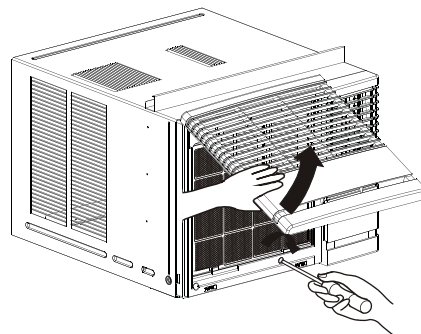

Fig.11
14. Pull down the inlet grille and secure it with a Type A screw ① through the front grille. ( Fig. 11)